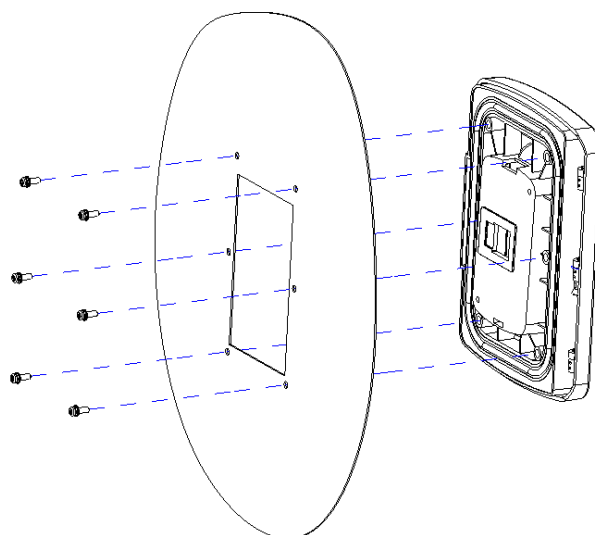

Figure 3. Installation
5. Complete installation by attaching the cover to the panel according to Figure 3. Use the provided M6 screws and tighten to 13.0 lbf-in.